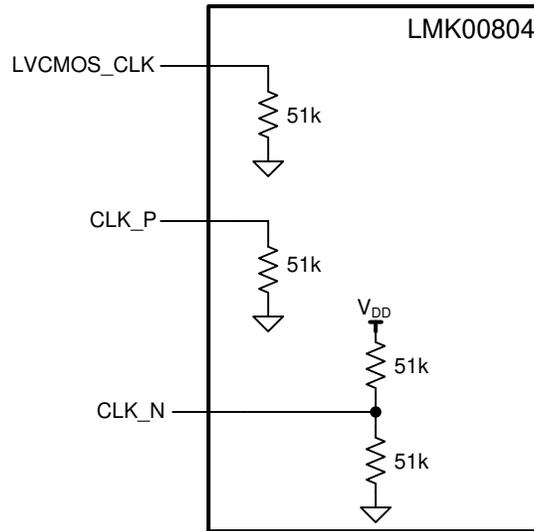

Figure 12. Clock Input Components
- **CLK_P/CLK_N Inputs:** See 图 12 for the internal connections. When using a single-ended input, take note of the internal pullup and pulldown to make sure the unused input is properly biased. To interface a single-ended input to the CLK_P/CLK_N input, the configuration shown in 图 14 is recommended.
- **LVC MOS_CLK Input:** See 图 12 for the internal connection. The internal pulldown (PD) resistor ensures a low state when this input is left floating.